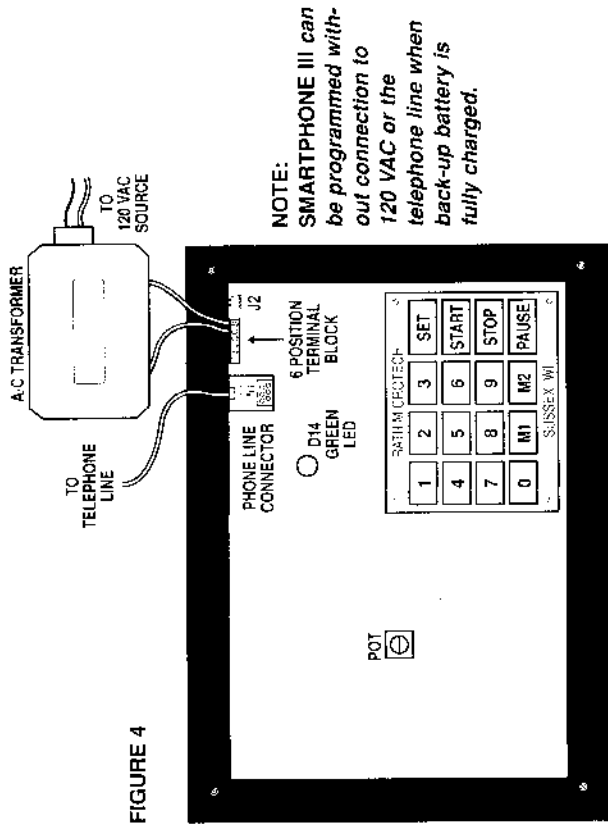

FIGURE 4
- Connect telephone line cord to the appropriate modular telephone line jack. Connect transformer to 120 VAC. (See Figure 4 above.)
- A. Locate the white potentiometer (POT) on the circuit board. It is located left of the keypad. (See Figure 4, Page 7.)